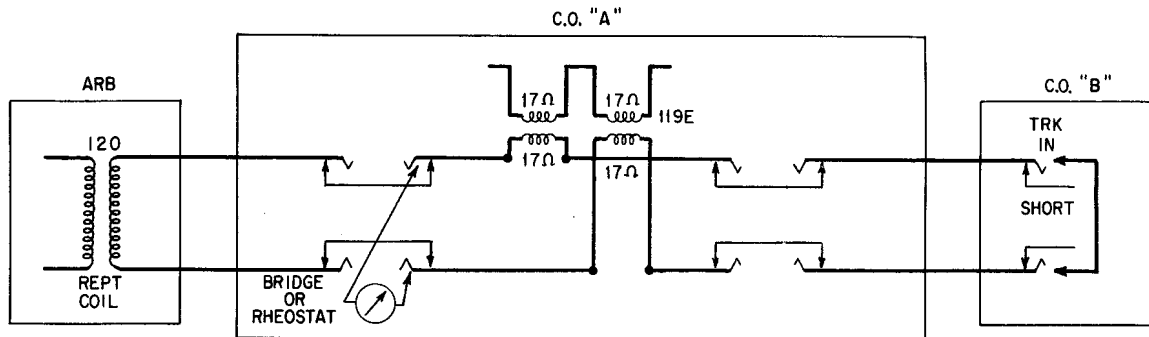

Fig. 2 — Measurement of Backbone Route DC Resistance
**3.02** The resistance of the backbone route trunk pairs should also be measured with a bridge or rheostat and the values recorded. The over-all resistance of the backbone route should be measured from the most remote central office to the control office as well as from ARB headquarters to the control office. If the route branches off to other central offices, the resistance should be measured from each office on the branch to the control office. Fig. 2 shows the setup for measuring the trunk resistance where C.O. "A" is the control office. The trunk resistance measured by the procedure below includes the resistance of the 119E coils. All resistance measurements should be recorded for future reference.